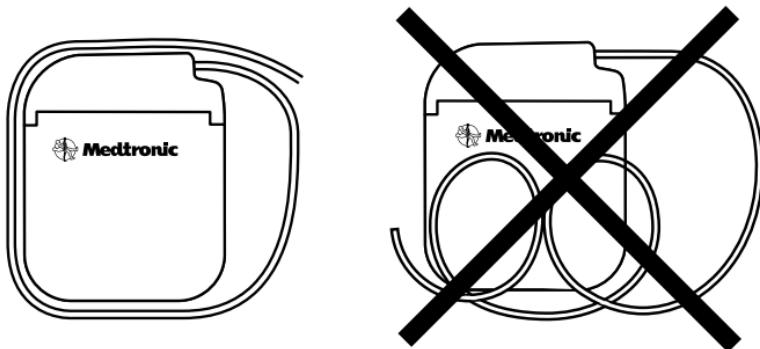

Figure 3. Wrap excess extension around the perimeter of the neurostimulator.
- Do not coil excess extension in front of the neurostimulator. Wrap excess extension around the perimeter (Figure 3) of the neurostimulator to minimize subcutaneous pocket depth, help minimize potential damage during